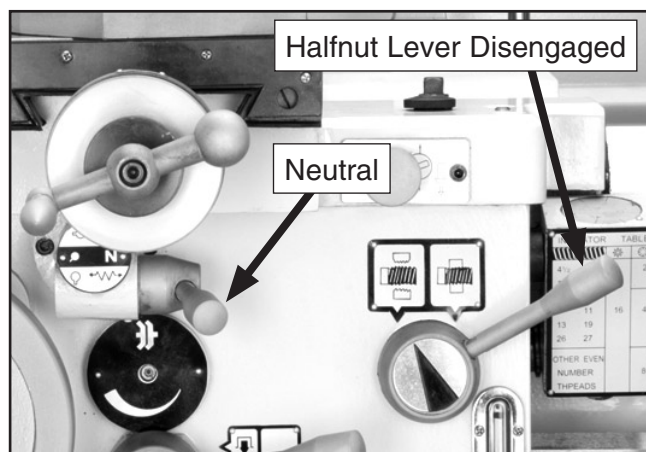

Figure 9. Power feed and halfnut levers.
9. Disengage the halfnut and the power feed levers (**Figure 9**).